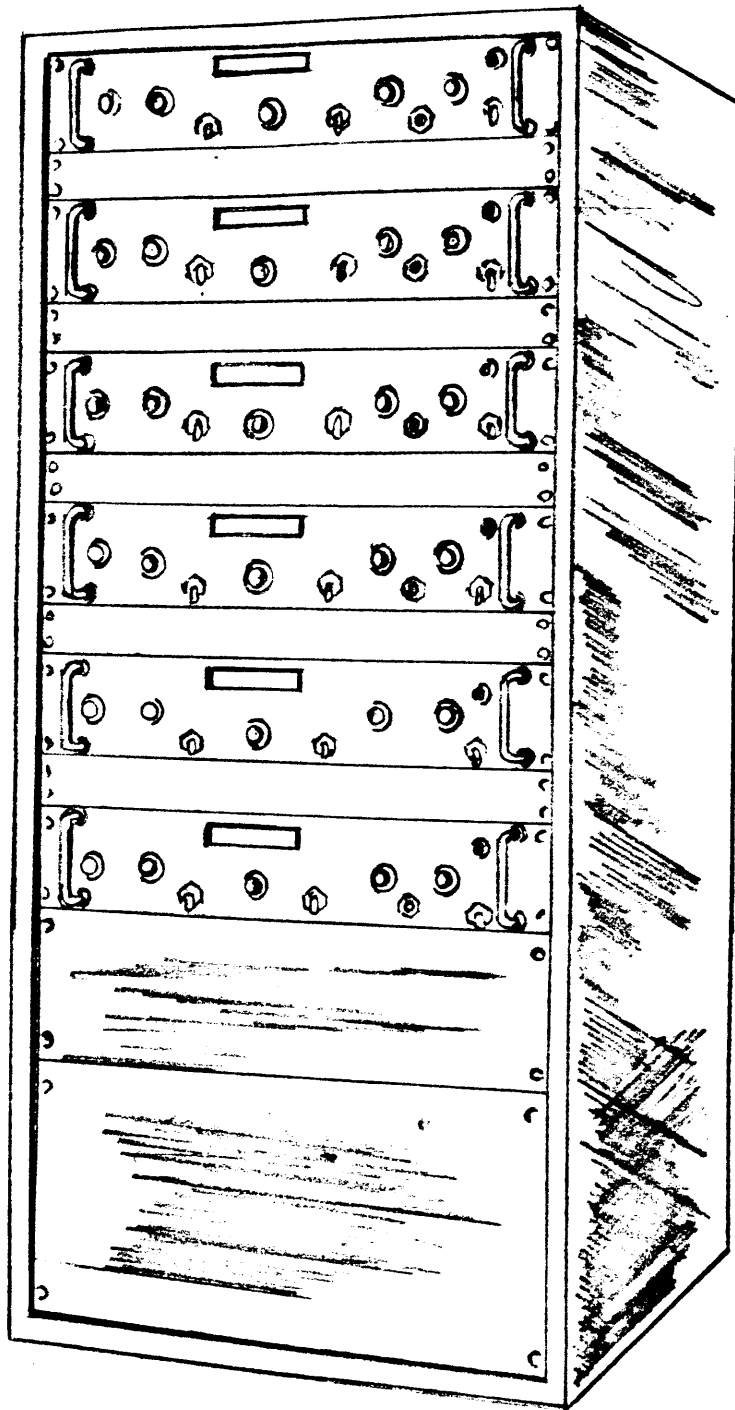

Figure 1-1
The SYM-5213 System (figure 1-1), is comprised of (6) solid state audio type dual-channel frequency shift converters designed to be used with either diversity or single receiver communication systems. The CFA converts frequency-shift tone signals (Mark-Space) into d-c pulses the operate teleprinter equipment. The CFA accepts frequency shifts of 40 to 1000 cps through a simple change of switched discriminator networks. D-c clamping and a two-stage memory circuit provide automatic centering of the discriminator. An automatic MARK-HOLD feature places the output circuit in "marking" state during signal drop-outs. A keying stage functions as a neutral relay for the output signal to teleprinter.